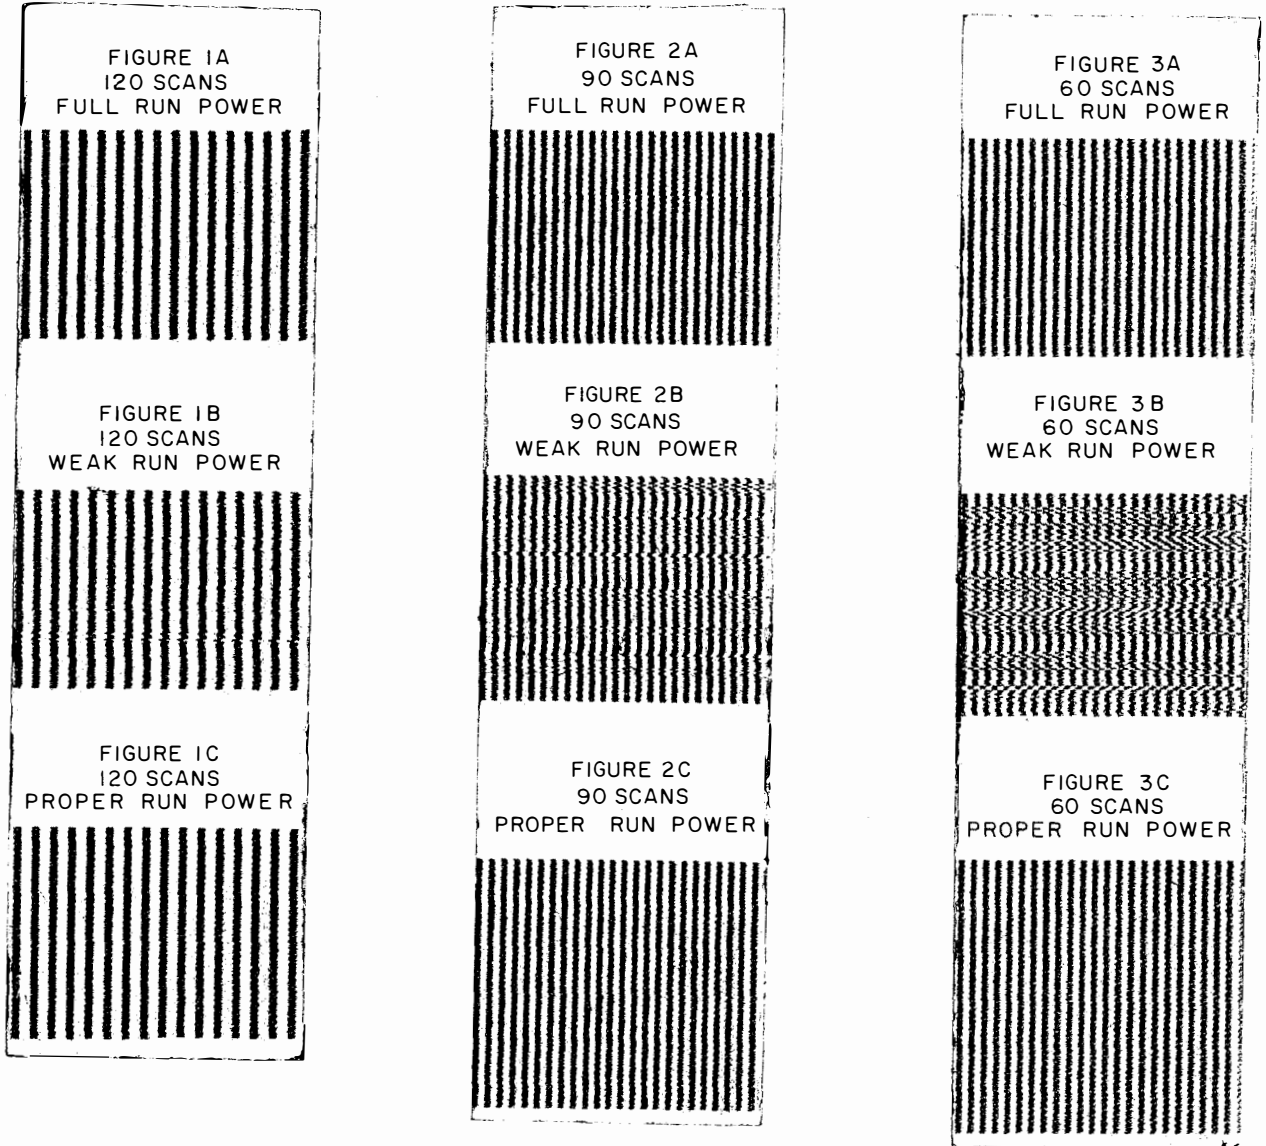

Figure 1
12. Depress and hold Start Switch, S103, on hinged panel. This removes ground shunt from sync motor signal provided in step 8 above, and this signal is now amplified and recorded as shown in figure 1 (a).
13. Adjust 120 scan potentiometer R132 slowly in counterclockwise direction until copy becomes degraded as shown in figure 1 (b).
14. Adjust R132 slowly in clockwise direction until copy again becomes legible as upper portion figure 1 (a). Note voltmeter reading and further adjust R132 in a clockwise direction to a five-volt higher reading than noted. This is proper run motor adjustment of 120 scan speed.
Successful production of suitable test patterns as shown in figures 1 (c), 2 (c), and 3 (c) during the tests and adjustments described above proves the AN/UXH-2 recorder to be functioning properly and independently from all ancillary equipment. Copy degradation subsequent to successful completion of the above tests must be corrected in other equipments concerned with receipt of facsimile signals such as converters and radio receivers. Ships and stations having facsimile transmitters, keyers, and modulators should check these for proper operation also.